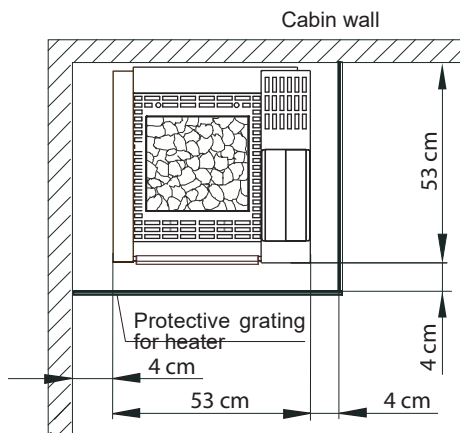

Fig. 1
- When assembling the sauna heater, make sure that the vertical clearance between the upper edge of the sauna heater and the sauna ceiling is at least 105 cm and the horizontal (side) clearance between the heater and cabin wall is at least 4 cm (fig. 1).